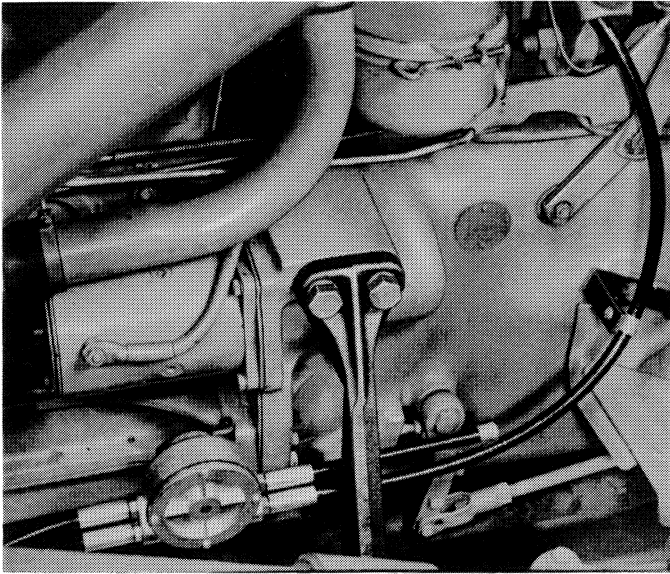

Figure 24—Control Cable Reduction Gear Assembly Installed
1. Place the wheel housing and the cable and conduit assembly in their installed position, Figure 24, and attach the wheel housing to its support bracket. Make sure the upper conduit assembly and the lower conduit assembly extension is passed through the holes in the left side member bracket.